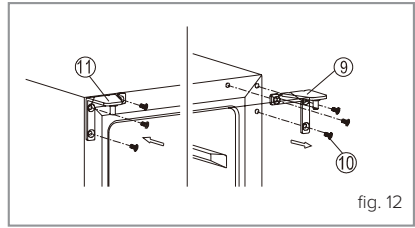

fig. 12
5. Remove the upper hinge (9) as shown in fig. 12.